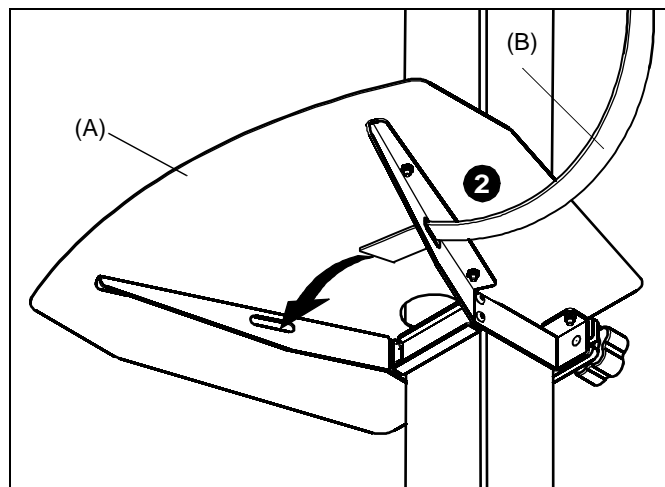

Figure 7
1. Place equipment on shelf (A).
2. Thread strap (B) through slots in shelf (A). (See Figure 7)